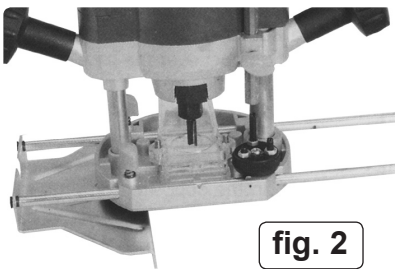

fig. 2
- Mount the fence on the router by sliding the rods through the holes in the base and retain by tightening the locking knobs. See fig. 2.